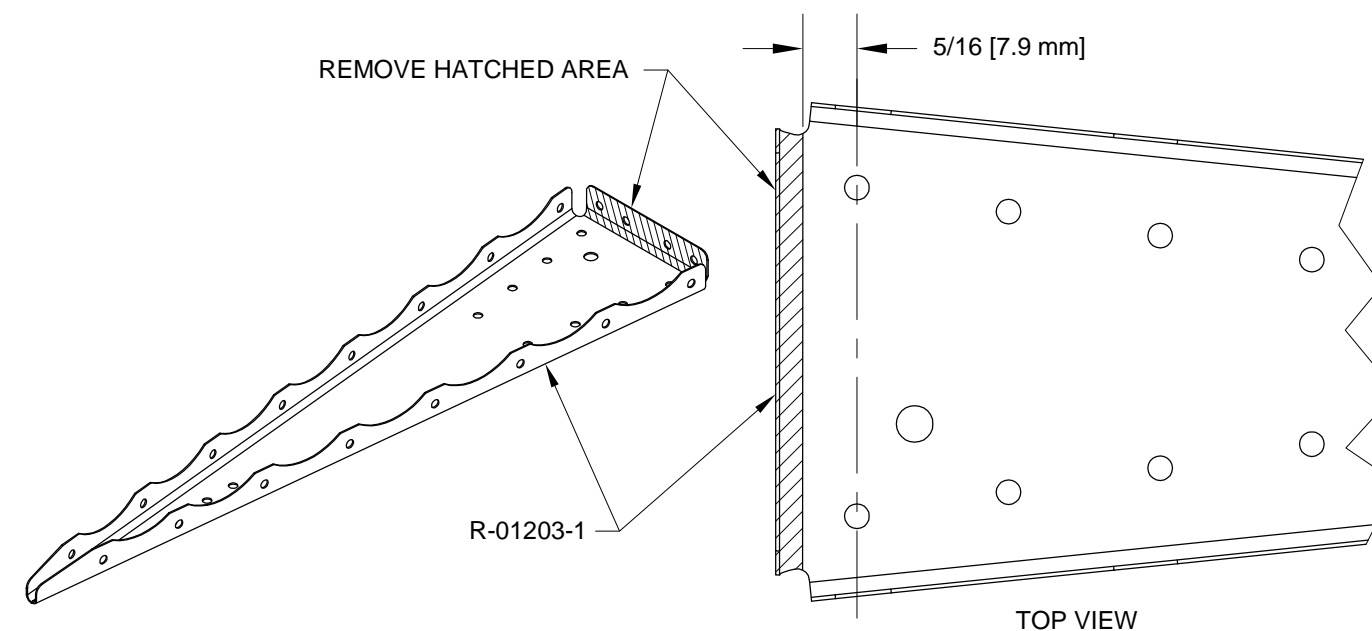

FIGURE 3: REMOVE MAIN RIB FLANGE
Step 4: Remove the forward flange from one R-01203-1 Main Rib per the dimension in Figure 3. Deburr the trimmed edge. Hereafter refer to this trimmed rib as the R-1203A Trimmed Rib.